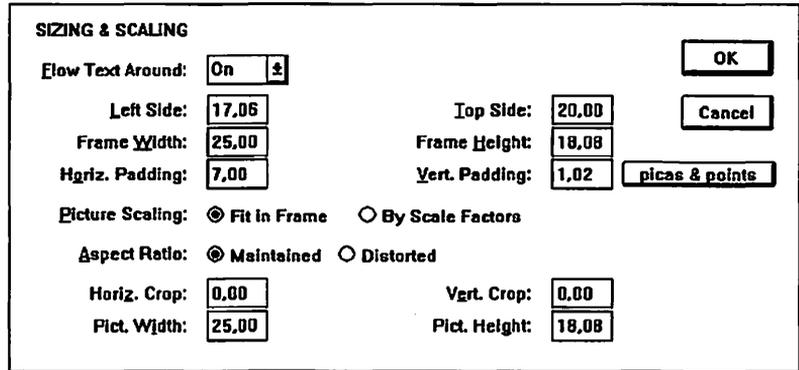

FIGURE 10-2 We fine-tuned the dimensions of our standard-size illustration frames using Ventura's Sizing & Scaling dialog box.
2. On the new last page, using the Sizing & Scaling dialog box under the frame menu (see Figure 10-2), we created a frame and set its frame height, frame width, and horizontal and vertical padding for a standard-sized illustration. A rather large horizontal padding value of 7 picas prevented text from wrapping into the left margin of the illustration. (Later, we applied the same horizontal and vertical padding to the smaller caption frame, which is placed below the illustration frame.)